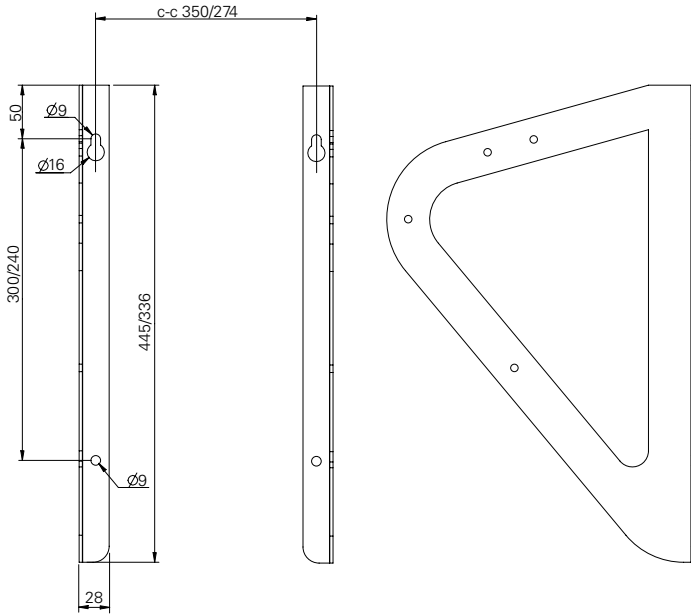

Fig. 2
1. Drill four holes in the wall with a c-c distance according to fig. 2 on page 2. Fit the screws in the upper two holes.